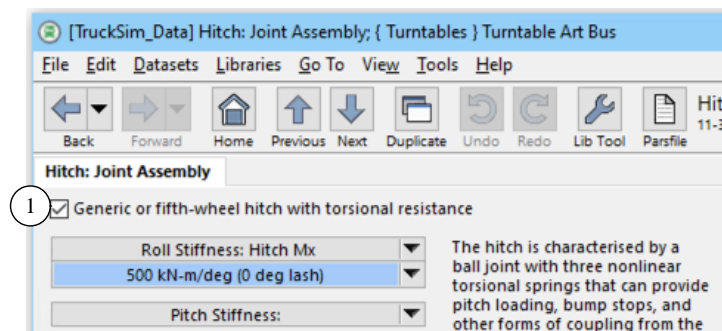

Figure 25. Hitch screen with Generic button checked for articulation system.
1. The hitch towing the trailer (either the **Hitch: Joint Assembly** screen or the **Hitch: Parameters** screen has a checkbox **Generic or fifth-wheel hitch with torsional resistance** ① (Figure 16, page 13, or Figure 17, page 15). This box must be *checked* (Figure 25).